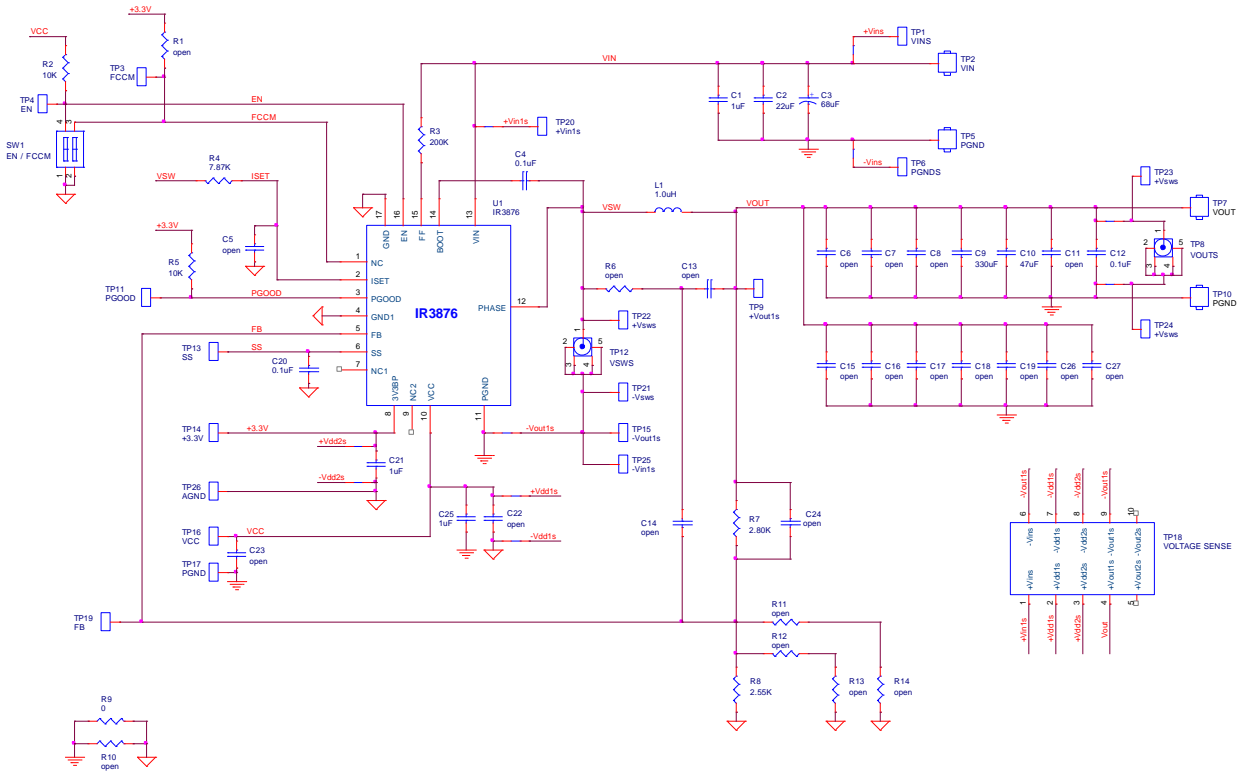

Figure 7. Typical Application Circuit for VOUT = 1.05V, Fs = 300kHz
Tested with demoboard shown in Figure 7,  $V_{IN} = 12.6V$ ,  $V_{CC} = 5V$ ,  $V_{out} = 1.05V$ ,  $F_s = 300kHz$ ,  $T_A = 25^\circ C$ , no airflow, unless otherwise specified
Tested with demoboard shown in Figure 7, VIN = 12.6V, VCC = 5V, Vout = 1.05V, Fs = 300kHz, TA = 25°C, no airflow, unless otherwise specified
- For applications with all ceramic output capacitors, the ESR is usually too small to meet the stability criteria. In these applications, external slope compensation is necessary to make the loop stable. The ramp injection circuit, composed of R6, C13, and C14, shown in Figure 7 is required. The inductor current ripple sensed by R6 and C13 is AC coupled to the FB pin through C14. C14 is usually chosen between 1 to 10nF, and C13 between 10 to 100nF. R6 should then be chosen such that  $L/DCR = C13 \cdot R6$ .